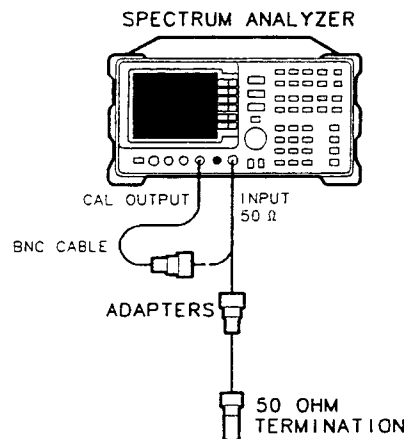

Figure 3-4. Displayed Average Noise Test Setup
4. Connect the HP 908A 50Ω termination to the spectrum analyzer INPUT 50Ω as shown in Figure 3-4.